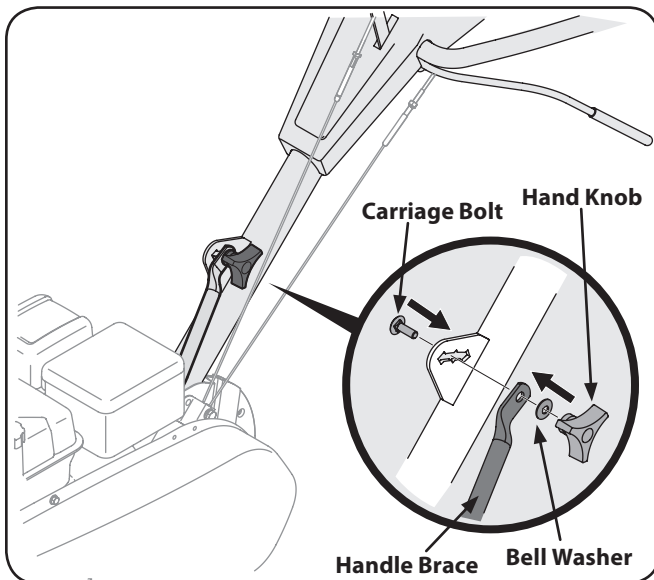

Figure 3-4
- Tighten the bolt securely after securing the handle brace as seen in Figure 3-4.
- Insert the carriage bolt through the welded bracket on the handle, bell washer, handle brace and into the hand knob. See Figure 3-4.
- Select one of the three handle height positions (three notches in the welded handle bracket) and tighten the hand knob to secure the handle in the desired position. See Figure 3-4. Return to the lower handle and tighten the hex bolt securely.